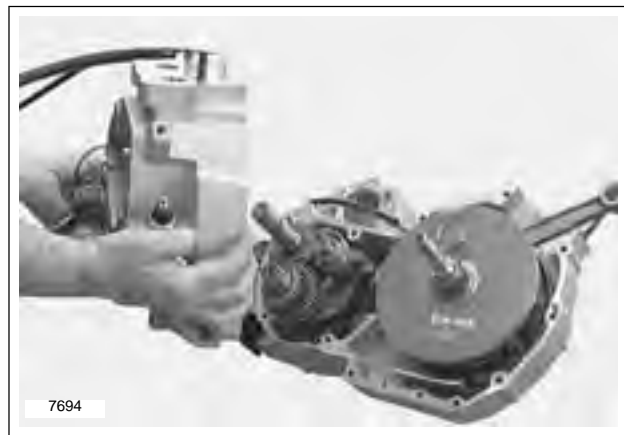

Figure 6-34. Splitting Crankcase Halves
16. See Figure 6-34. Separate crankcase halves.